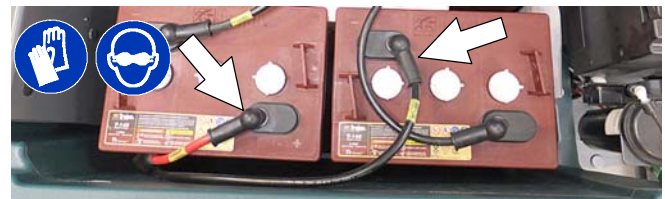

FIG. 76
1. Disconnect the battery cable connection at machine (Figure 76).